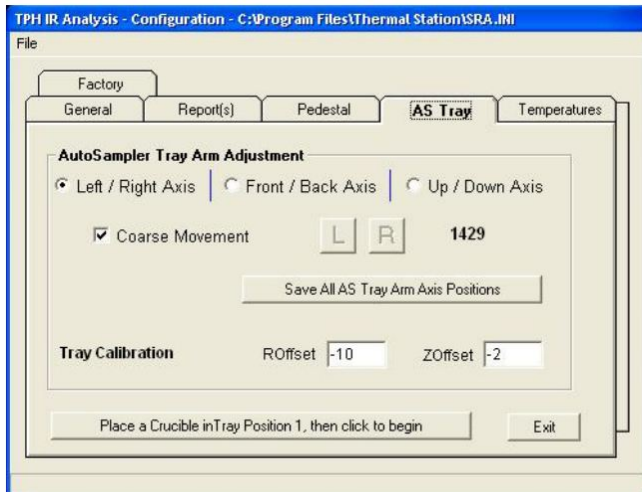

Figure 32. AS Tray Tab.
1. Click Configuration on the Main Menu and select the **AS Tray** tab (*Figure 32*).